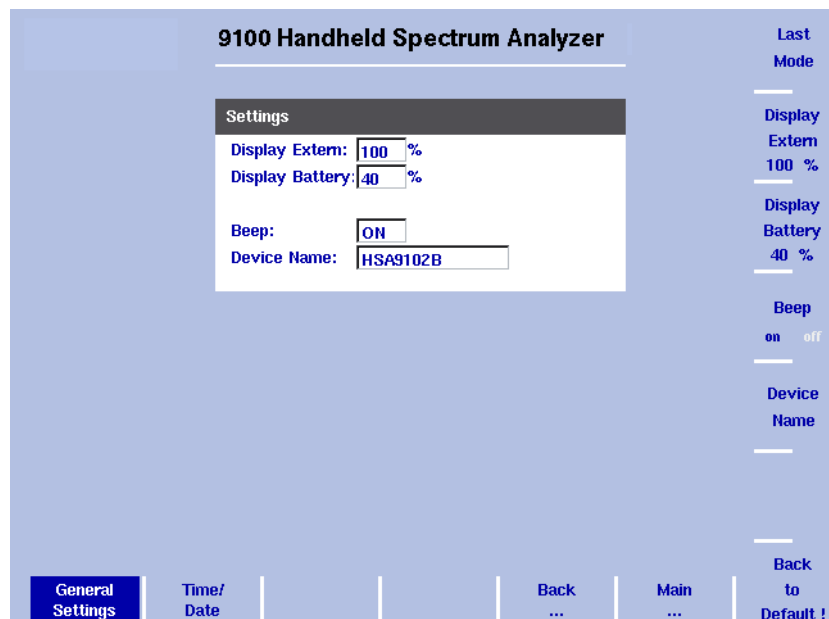

Figure 10 General Settings menu
- 2 Select **System > Settings**. The general settings display appears (see Figure 10), showing the current display backlight setting as a percentage.